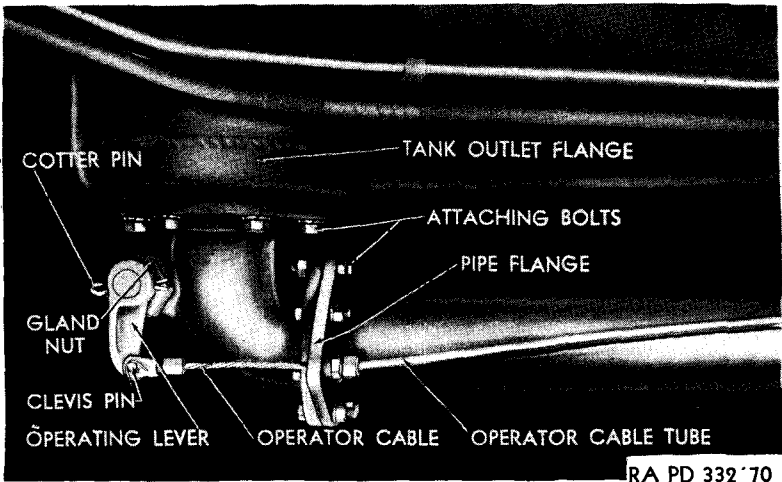
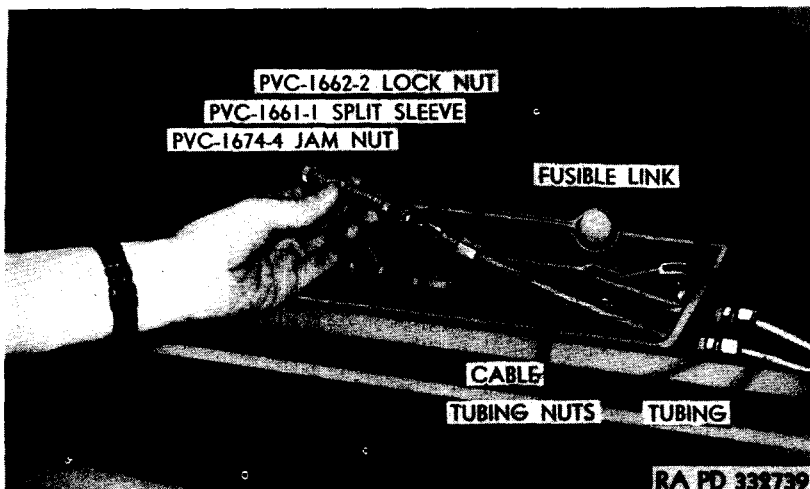

Figure 54—Front Compartment Piping
Figure 56—Cable Connector Assembly
b. Removing Piping Assemblies (figs. 54 and 55). Procedure for removal of front and rear compartment piping is the same. Unscrew jam nut on operator cable at emergency valve, and remove cable from cable connector. Remove tube nut and tubing from
c. **Installing Piping Assemblies** (figs. 54 and 55). Procedure for installing front and rear compartment piping assemblies is the same. Install tubing connector in piping flange. Using new gaskets (par. 53) set piping in place and bolt flanges with hexagonal-head bolts, nuts, and lock washers. Draw nuts up as tightly as possible. Thread operator cable through flange, then attach tubing to connector with tubing nut. Remove clevis from emergency valve, and install on end of cable with cable connector assembly (fig. 56). Attach clevis to emergency valve, and adjust tension at operator if necessary (par. 56). To install manifold, connect it up to piping assemblies first, then install faucets (par. 57).
55. EMERGENCY VALVES (figs. 54 and 55).
d. Installation. Install operator in position with screws, nuts, and lock washers. Insert cable ends through frame and attach cable connector assemblies (fig. 56) to adjusting studs. Attach tubing to operator frame with tubing connectors. Insert studs through operator handles, and adjust cable tension (subpar. b above).